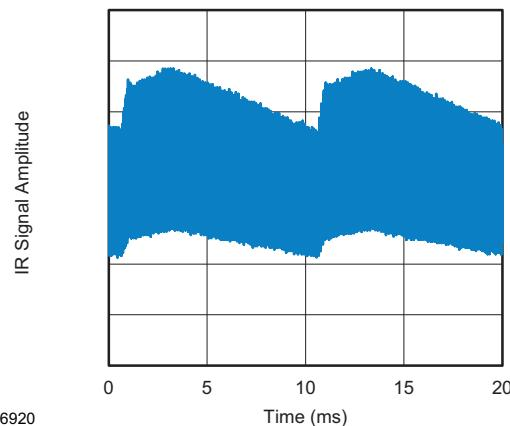

Fig. 13 - IR Signal from Fluorescent Lamp
- Strongly or weakly modulated patterns from fluorescent lamps with electronic ballasts (see Fig. 13 or Fig. 14)